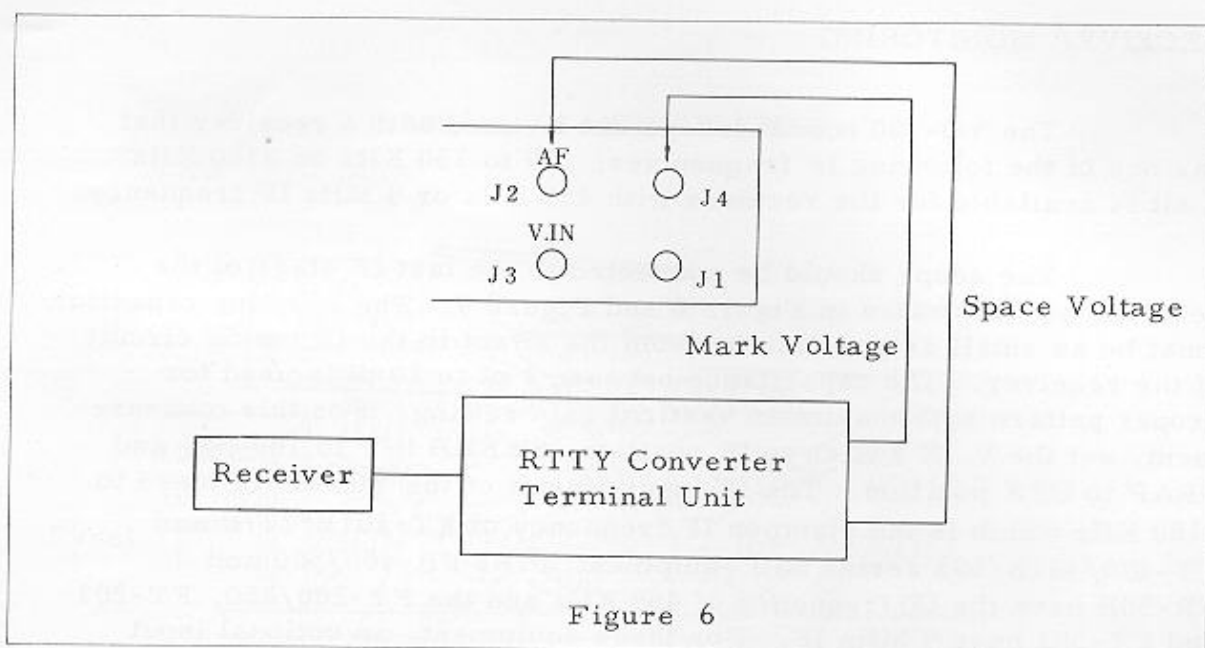

Figure 6
- (1) Connect a shielded cable from the mark terminal of the RTTY terminal unit to the HORIZ input J4 and the other cable from the space terminal to the AF (vertical input) J2 of the monitorscope, as illustrated in Figure 6.
- (2) Set the front panel controls as described in the initial adjustment procedures. Make sure that V. IN push button switch on the front panel is at out (AF) position. Push the RTTY switch in and press the CLAMP switch down to protect the screen phosphor from burn-out.
- (3) The mark and space output of the terminal unit should be adjusted for an equal output when the receiver is properly tuned in. To check the equal output, insert the mark and space signal alternately into the vertical input of the scope and adjust the balance potentiometer of the terminal unit until the equal height is obtained.
- (4) After the setting of the balance potentiometer for equal output as described above, adjust the V. GAIN and H. GAIN controls for the cross pattern of equal length of horizontal and vertical trace. Once the desired pattern has been set, the gain controls on the monitorscope should not be changed.